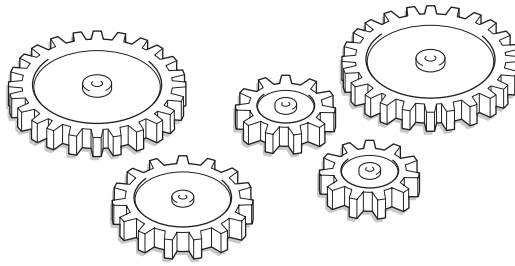

Fig. 5
- 6 Fig. 5 shows a variety of gear wheels made from a plastic.